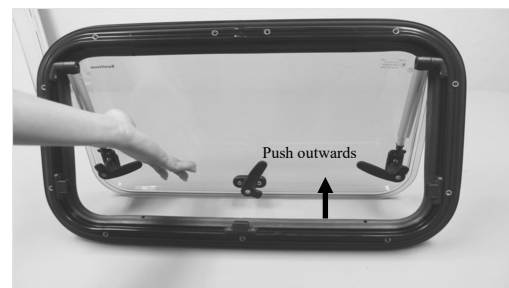

Figure 2
Step 2: Push acrylic panel outwards. Panel will click at different positions of opening. 300mm high windows have two opening positions, other windows have three. (Figure 2)